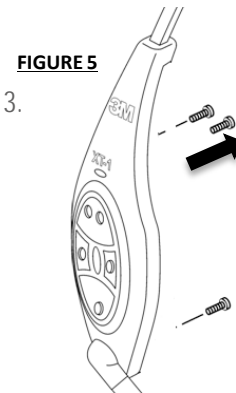

FIGURE 5
3. To disassemble the electronics side of the headset begin by removing the three screws shown in the illustration in Fig 5.
8. Bring the two halves together and replace the screws as shown in Fig 5.